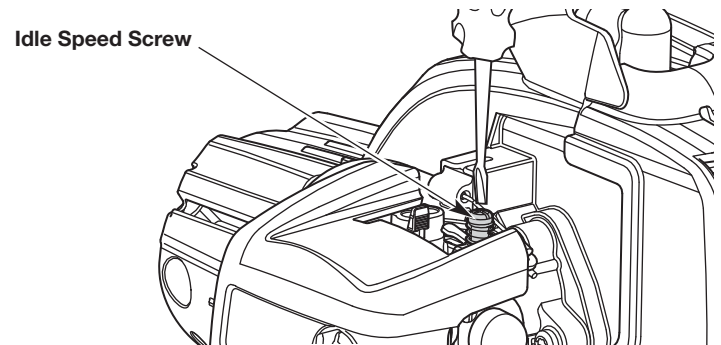

Fig. 12
2. Release the throttle control and let the engine idle. If the engine stops, use a small Phillips screwdriver to turn the idle speed screw **clockwise**, 1/8 of a turn at a time (as needed) until the engine idles smoothly (Fig. 12).